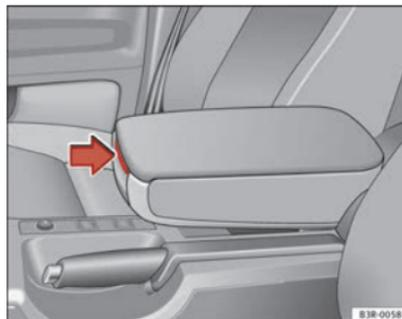

Fig. 113 Armrest between the driver seat and front passenger seat
- Press the release lever ⇒ Fig. 113.